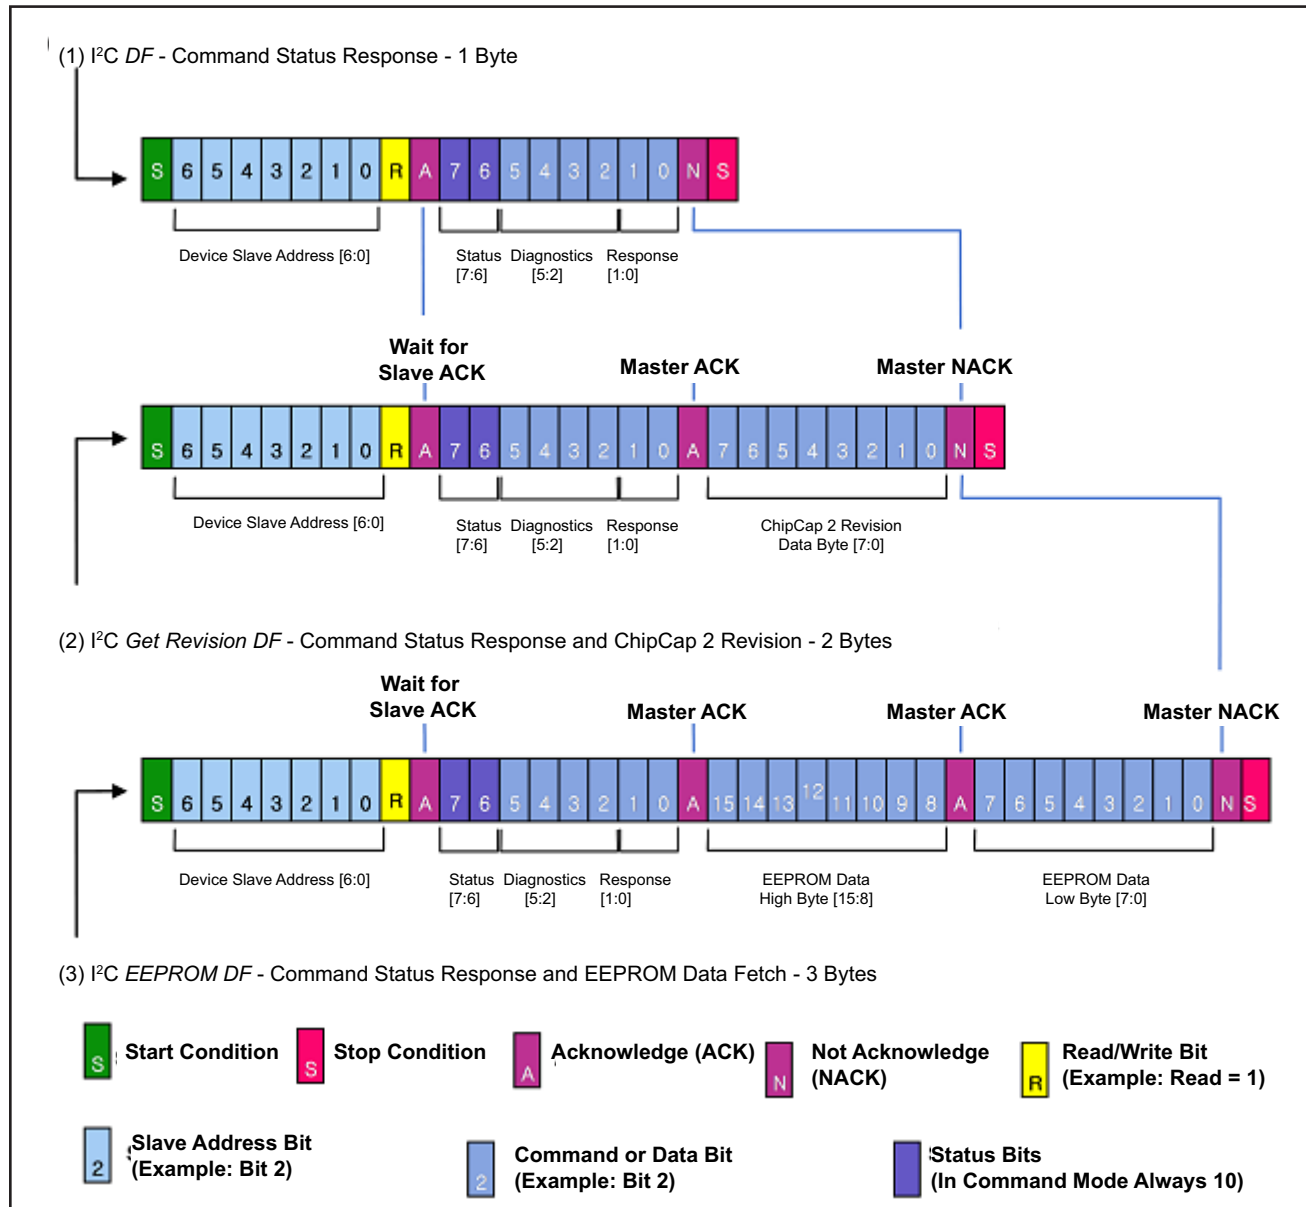

Figure 18: Command Mode Data Fetch
After a command has been sent and the execution time defined in Table 11 has expired, an I²C Data Fetch (DF) can be performed to fetch the response. As shown in Figure 18 on page 28, after the slave address has been sent, the first byte fetched is the response byte.
For all commands except EEPROM Read and Get Revision, the data fetch should be terminated after the response byte is read. If the command was a Get Revision, then the user will fetch a one byte Revision as shown in Figure 18 on page 28, example 2.
The revision is coded with the upper nibble being the letter corresponding to a full layer change and the lower nibble being the metal change number, for example A0. If the command was an EEPROM Read, then the user will fetch two more bytes as shown in Figure 18 on page 28, example 3.
If a Corrected EEPROM Error diagnostic was flagged after an EEPROM read, the user has the option to write this data back to attempt to fix the error. Instead of polling to determine if a command has finished executing, the user can use the Ready pin. In this case, wait for the Ready pin to rise, which indicates that the command has executed. Then a data fetch can be performed to get the response and data (see Figure 18 on page 28).